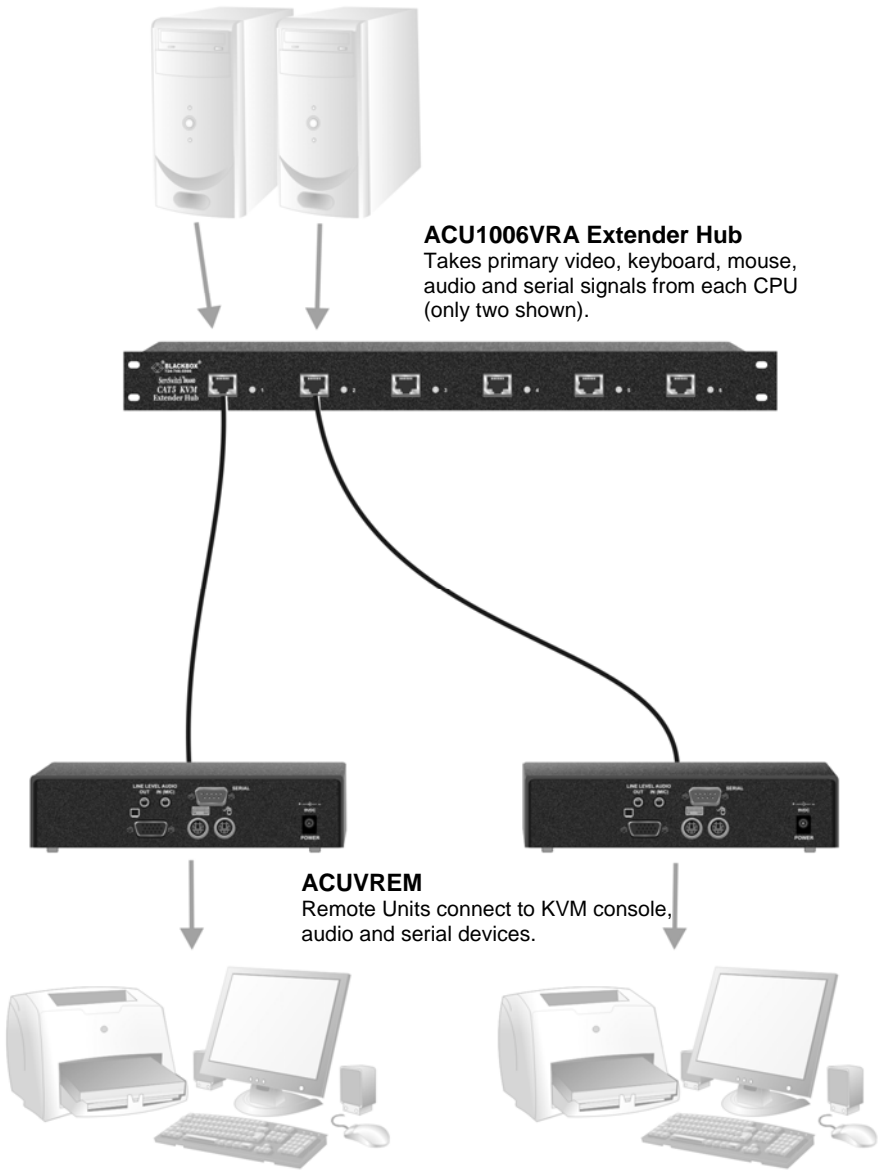

Figure 6 Serial and audio extension for up to six CPUs
- Simple system using ACU1006VRA Hub and ACUVREM Remote Units to extend audio, serial and KVM for up to six PCs (Figure 6)